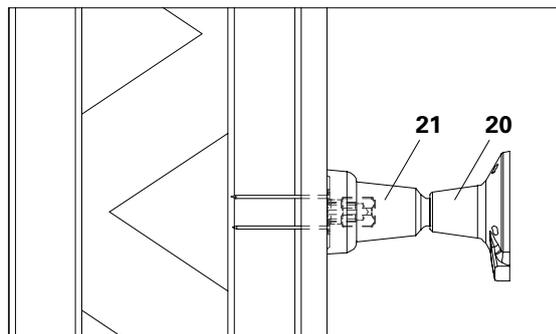

Fig. A5.06
2. Tightly screw pre-assembled anchors (20 + 21) on to the Anchor Positioning Stud M24 (22). (Fig. A5.06)
3. Firmly connect the Threaded Anchor Plate DW 20 (20) to the reinforcement to ensure a secure position.